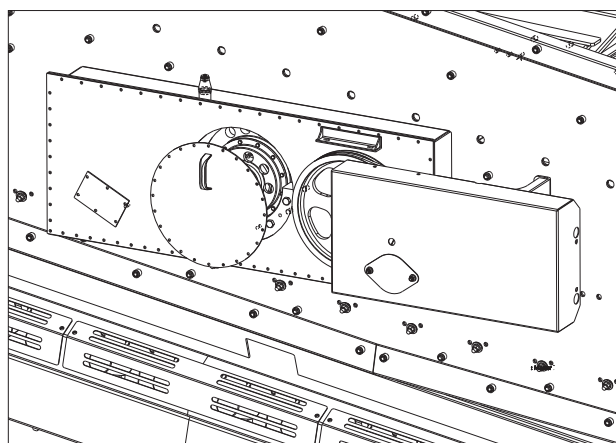

Figure 9.62 - Remove Timing Cover
2. Remove timing cover, Ref: Figure 9.62.
17. Replace timing cover (Figure 9.62). Replace drive belt and belt guard if they were removed.